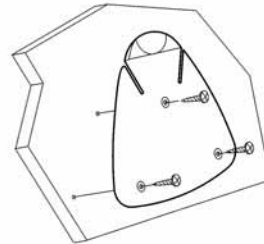

Fig. 2
2. Drill three 2mm holes marked "BRACKET" on the Template and using the supplied self tapping screws attach the clip bracket to the mounting surface (Fig.2).